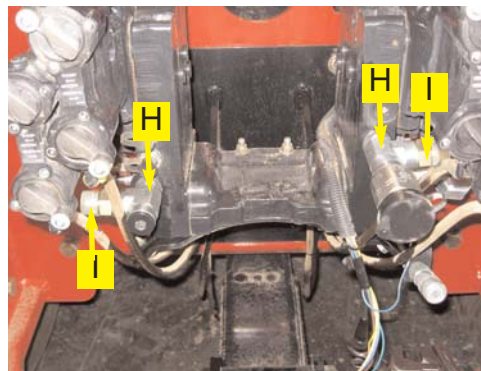

Figure 3c. Installed pressure and tank fittings.
- c. Remove the plug or pressure coupler from the bottom left port on the valve stack. Install the run tee (H) and reinstall the plug or coupler to the end of the run tee. Install adapter fitting (I) into the branch of the run tee (H). (Figure 3c.)
- d. Remove the plug or return coupler from the bottom right side of the valve stack. Install the run tee (H) and reinstall the plug or coupler to the end of the run tee. Install adapter fitting (I) into the branch of the run tee (H). (Figure 3c.)